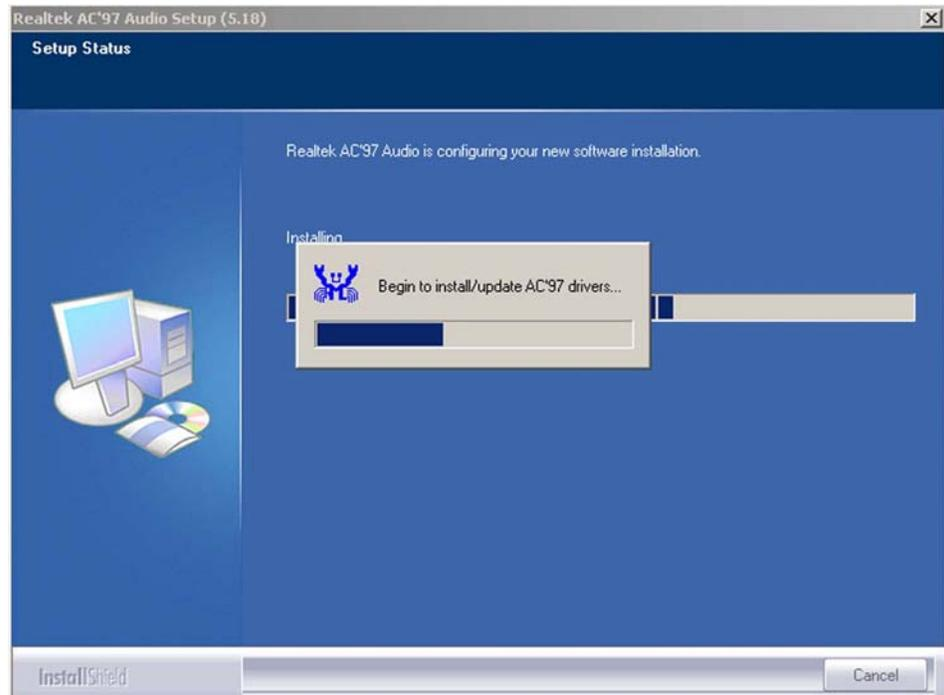

Figure 6-14: Audio Driver Installation Begins
Step 6: At this stage the clicking the “**YES**” button in **Figure 6-13** appears, the installation of the driver begins. See **Figure 6-14**.